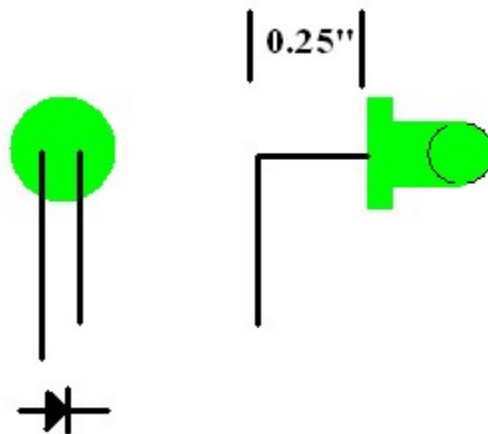

Figure 5-Bending D7's leads
- Bend LED D7's leads as shown in Figure 5. Make sure to watch the orientation of the cathode and anode. Insert the diode into the PCB, but don't solder it yet.